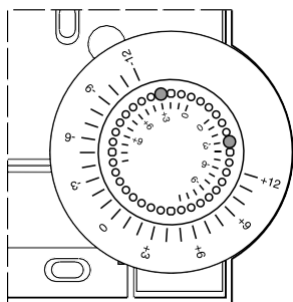

Fig. 6: Limiting the adjustment range
- Place the two small pins into the holes of the adjustment dials in order to limit the adjustment range (see Fig. 6). Orientate yourself on the basis of the innerscale:
In Fig. 6, the pins are inserted so that the adjustment dial can only be adjusted by  $\pm 3\text{ }^{\circ}\text{C}$  around the zero point.